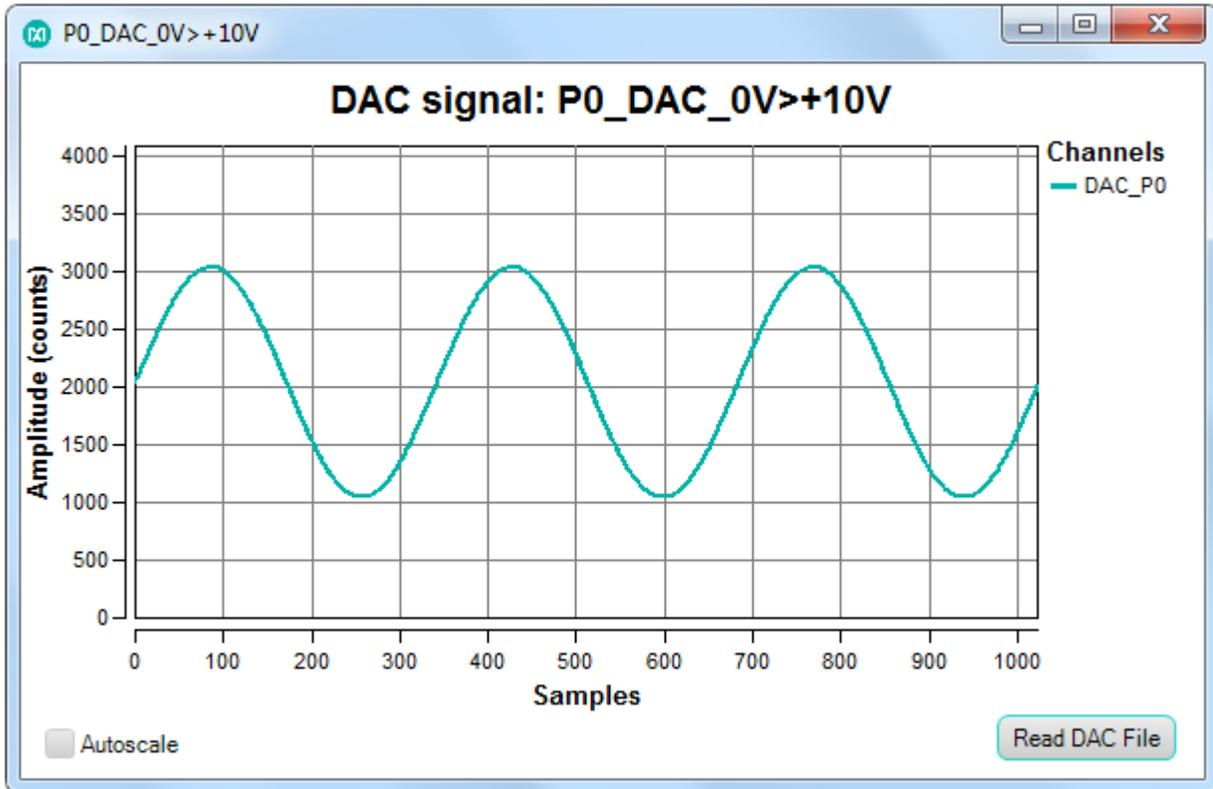

Figure 12. DAC plot box.
- DAC Analog Output:** The value written to the text box is applied to the port. For DAC analog outputs, it is also possible to apply a complete waveform. To do that, select a target DAC-port, and to apply a waveform, click on **Get Plot Box** on the top right. A separate window opens, and a comma separated file (.adc) that contains hex or decimal numbers can be read with up to 1024 samples (see **Figure 12**). There are a few waveform examples provided for sawtooth and sine and triangle waveforms; these files have the suffix .adc\*. Note that once a plot box for the port is open, the text box in the GUI main window is ignored.